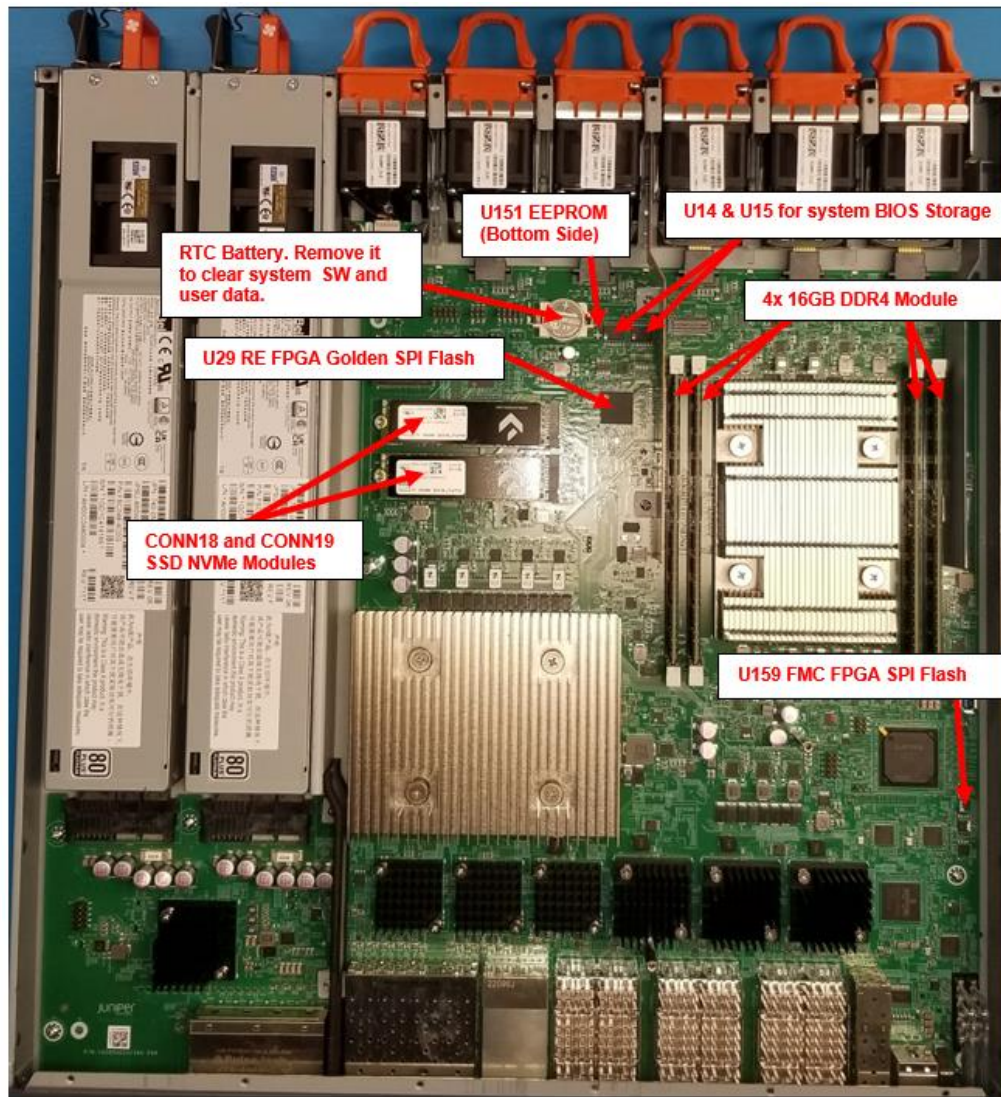

Figure 3-5: Locate NV storage devices on Skyfall board
6. Locate NV storage devices on Skyfall board (Figure 3-5).